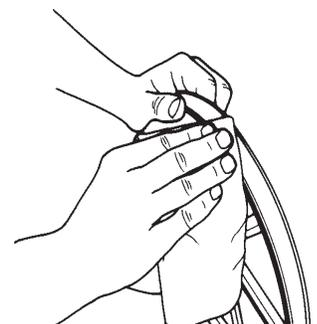

Fig. 18
13. Remoisten the shop rag with paint thinner, and wipe off any excess adhesive. (See Figure 18.)